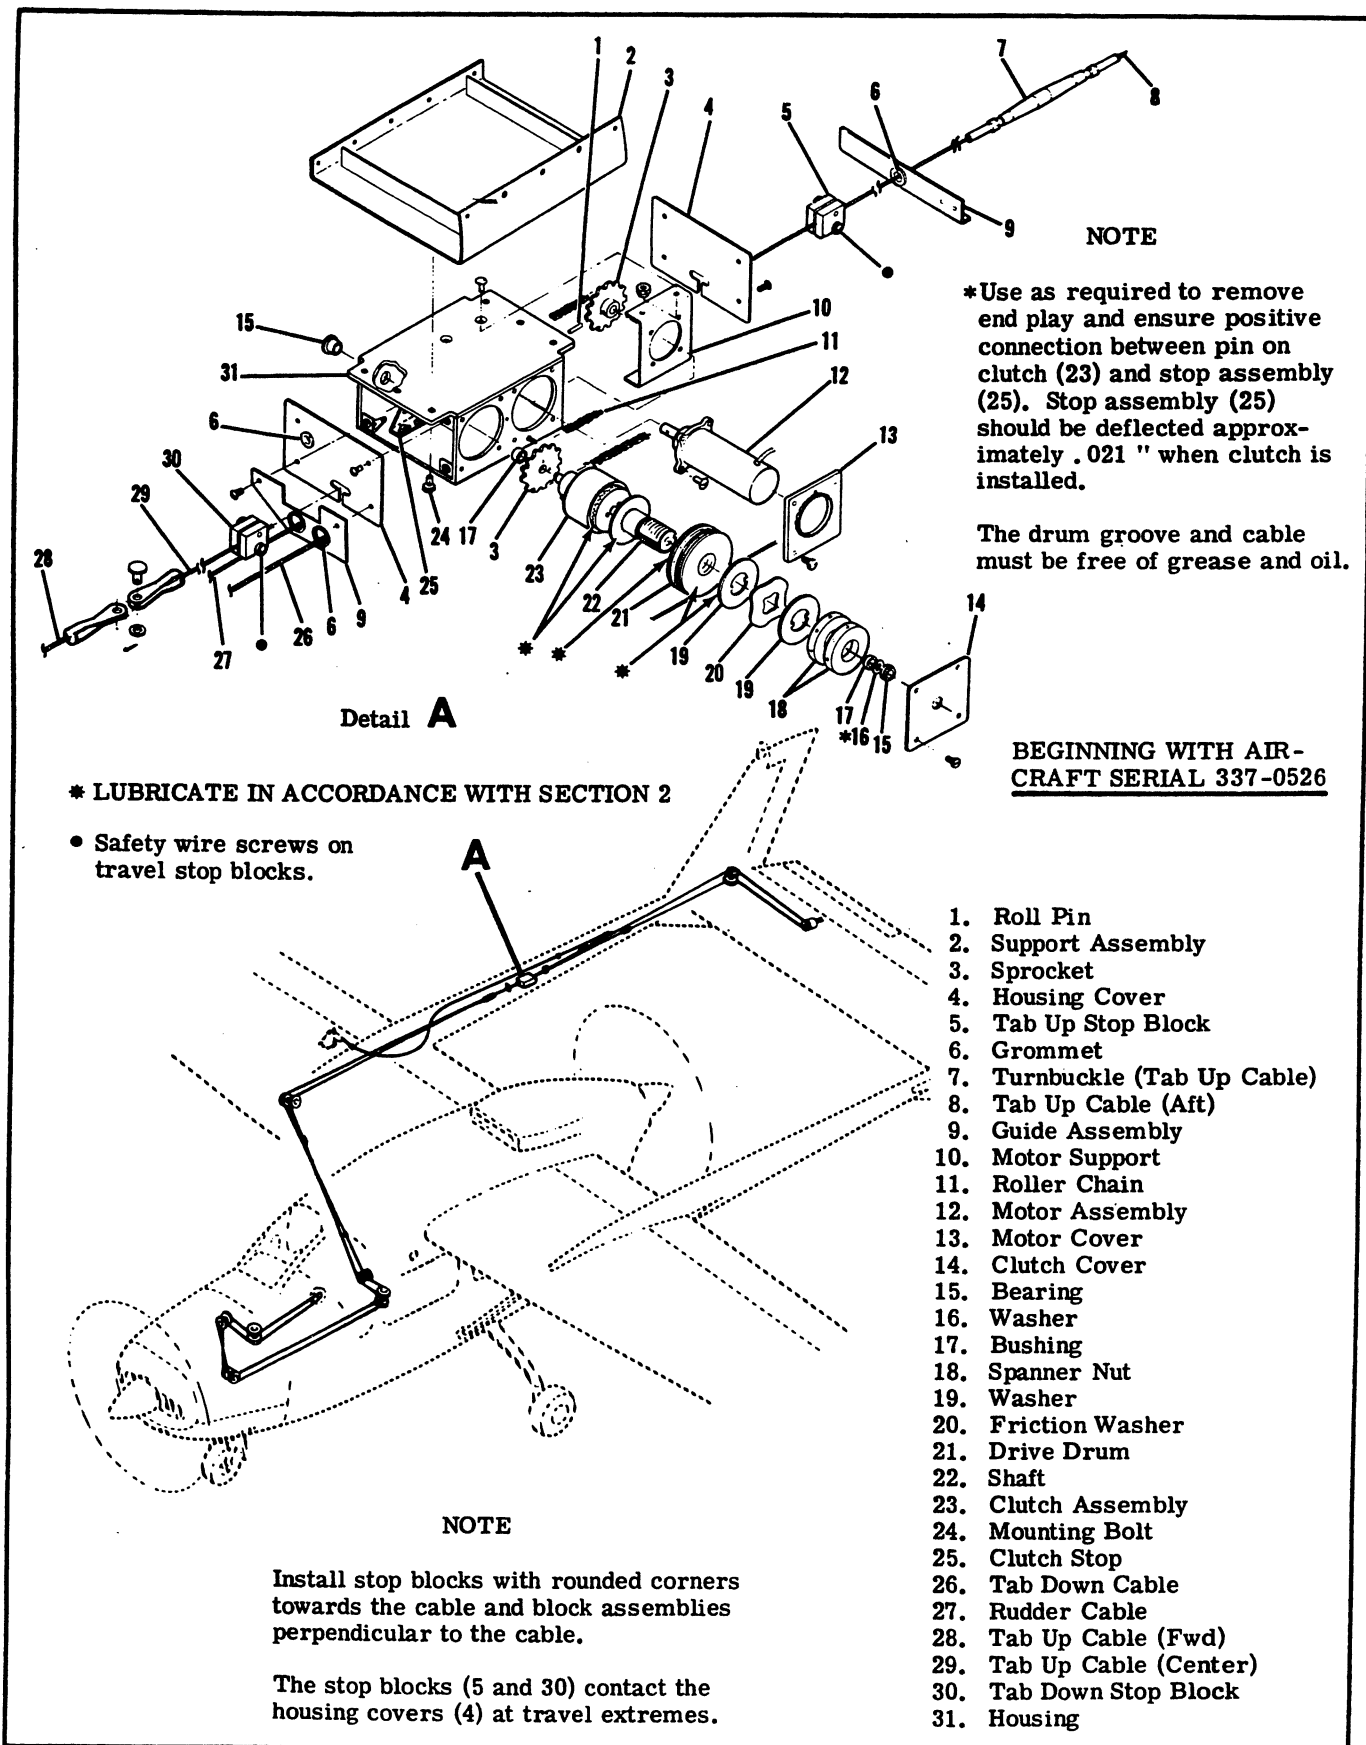

Figure 8-10. Electric Elevator Trim Control System
a. (Refer to figure 8-10.) Remove access plates from inboard side of right tail boom as necessary to expose Detail A.
b. Remove safety wire, relieve cable tension and disconnect turnbuckle (7), leaving barrel attached to cable (8).
d. Remove safety wire, remove screws securing travel stop blocks (5 and 30) to cable (29) and remove stop blocks.
e. Remove cable (29) from aircraft.
- Remove safety wire and loosen screws securing travel stop blocks (index 5 and 30, figure 8-10).
(Refer to figure 8-10.)
8-30. REMOVAL AND INSTALLATION. (Refer to figure 8-10.)
8-31. CLUTCH ADJUSTMENT. (Refer to figure 8-10.)